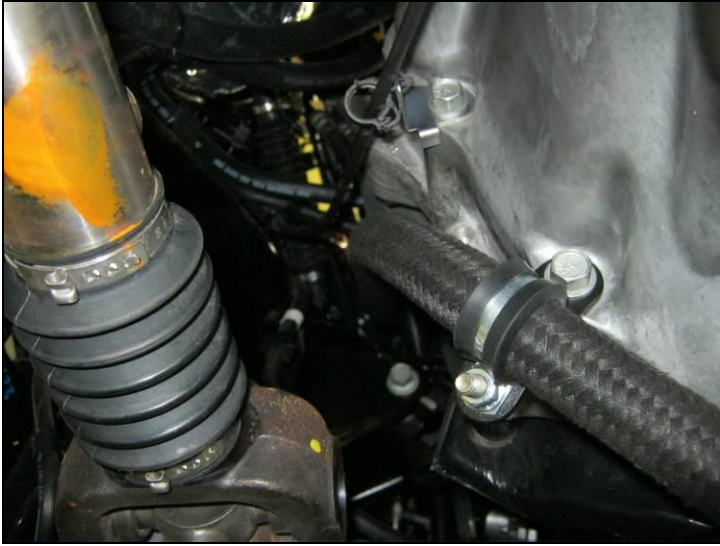

Figure 4.12
- Install the bent discharge hose bracket on the bell housing bolt near the front driveshaft per Figure 4.12 and attach the hose to the bracket with the supplied clamp, bolt, and nut.